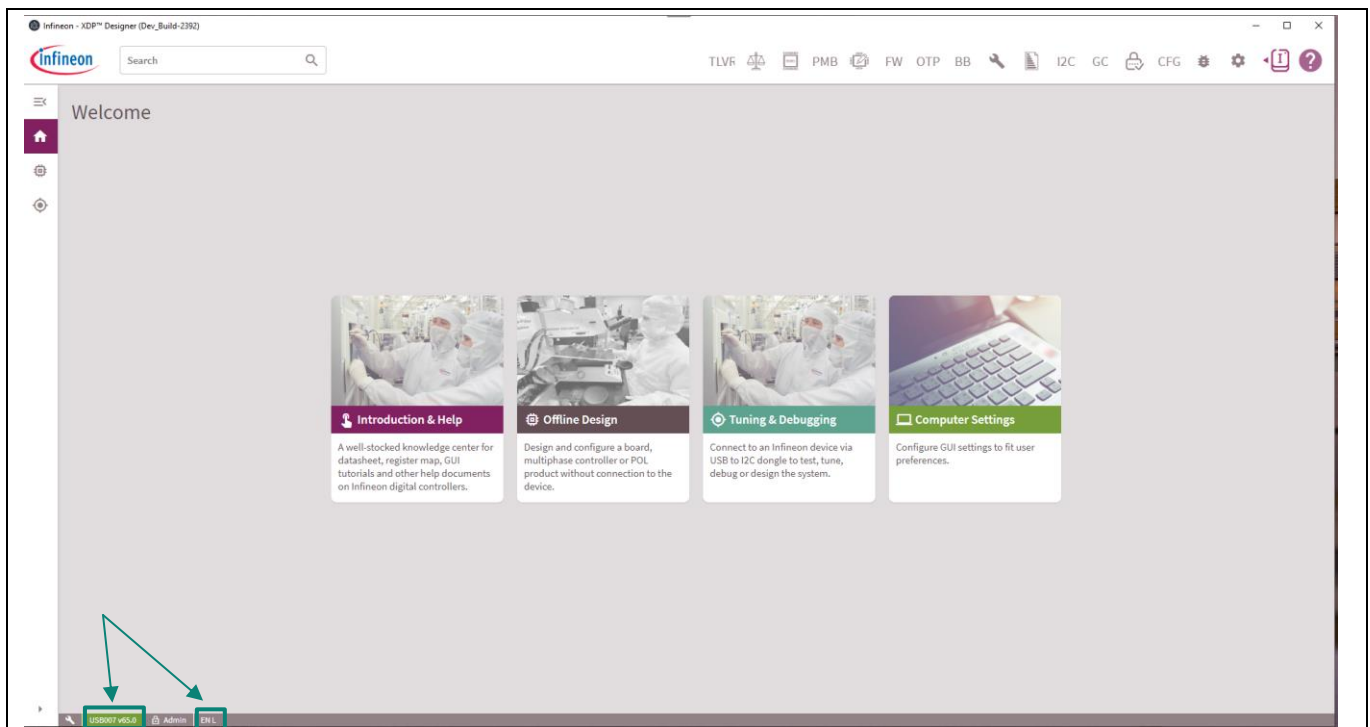

Figure 19 USB007A1 detection on XDP™ Designer
- If the highlighted area, as shown in Figure 19, turns green and displays **USB007**, then the dongle has been successfully detected by the GUI.